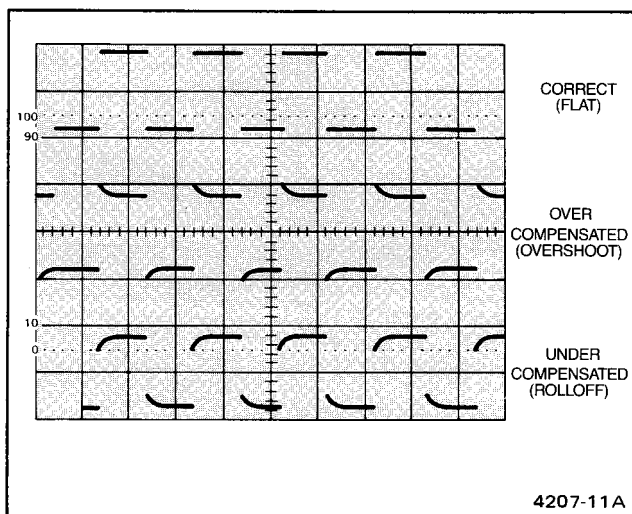
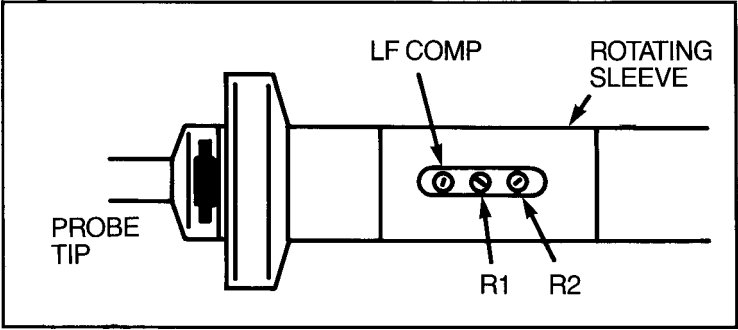

Figure 4-1. Probe compensation.
Figure 4-2. Locating the low-frequency compensation adjustment.
7. Check the waveform presentation for overshoot and rolloff (see Figure 4-1). If necessary, perform step 8 to adjust the probe low-frequency compensation. Otherwise, proceed to step 9.
8. Rotate the sleeve on the probe head to expose the LF COMP adjustment capacitor (see Figure 4-2). Use a low-reactance alignment tool to adjust LF COMP and obtain a square, or nearly square, front corner on the waveform tops (Figure 4-1, top trace).